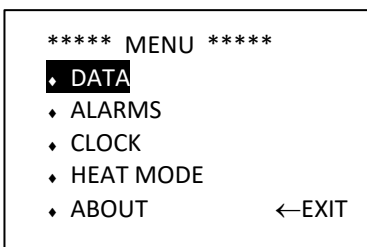

Figure 14: xFridge Menu Display
- a) Access the MENU, as shown in Figure 14, by pressing the MENU/SELECT button in Temperature Display Mode. Use the ▲ and ▼ buttons to toggle between the menu items and press MENU/SELECT again to step to the highlighted option. Highlight “←EXIT” and press MENU/SELECT to return to Temperature Display Mode.